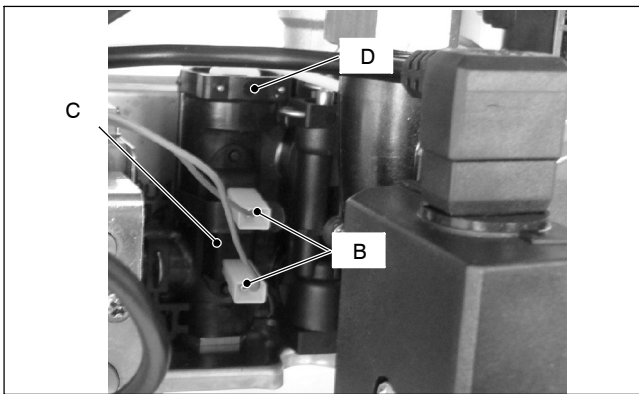

Fig. 69
- 2 Disconnect the connectors *B* and remove the sensor holder spring *C* (Fig. 69).